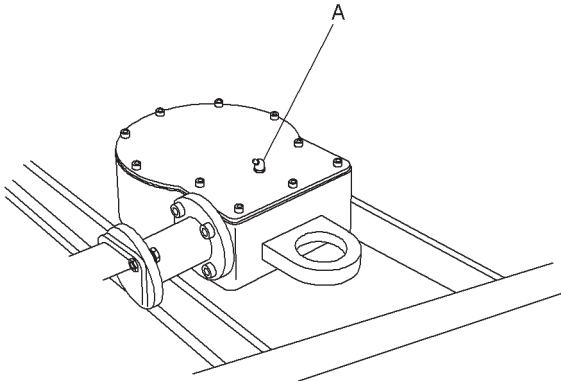

Figure 7-6. Circle Drive Lubrication Point
Lubricate the following points. Refer to Figure 7-6. Lubricate until grease escapes at joint.
1. Rotate hub until Oil Level bolts are in horizontal position, see Figure 7-6